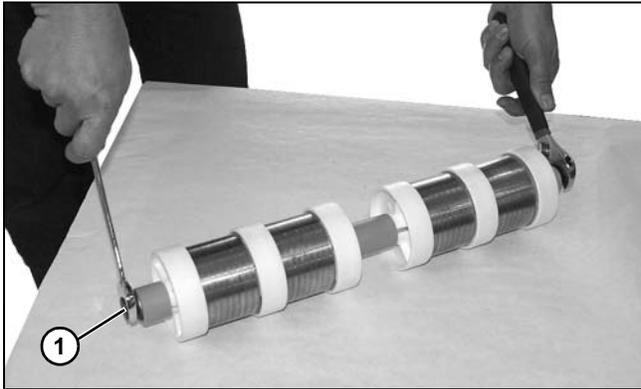

Figure 105
5. Use wrenches to remove both bolts (Figure 105, item 1) from each side of roller assembly.